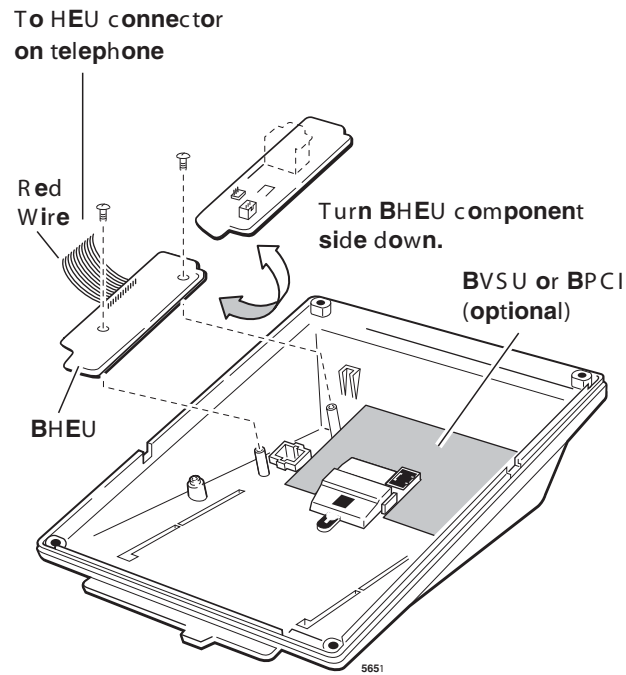

Figure 8-18 BHEU Installation
3. Position the BHEU PCB (component side down) on the standoffs inside the base, and secure with the two provided screws (see Figure 8-18).